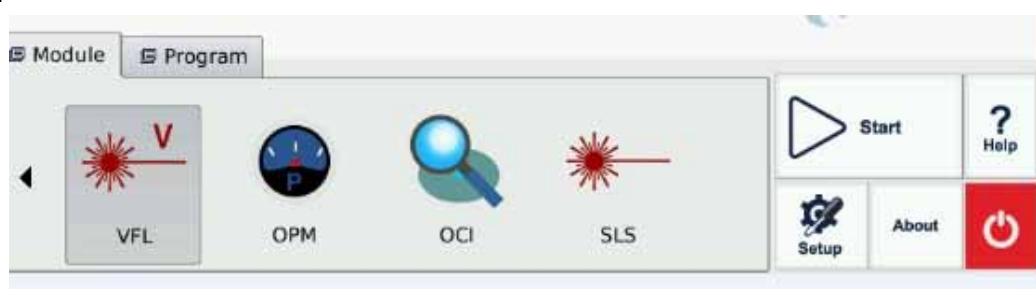

Fig. 18.1 Optical Connector Inspector Interface
3. Tap the "OCI" icon to enter Optical Connector Inspector interface, as shown in Fig 18.1.